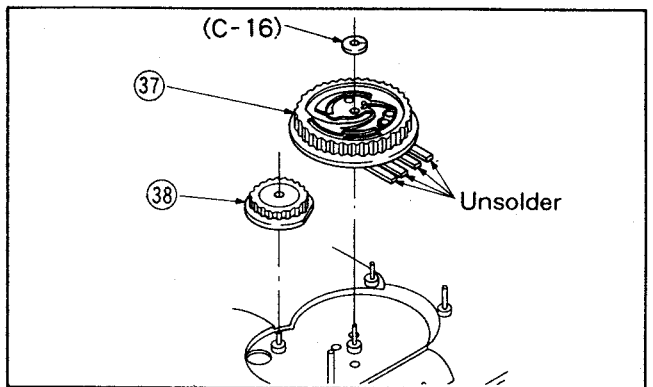
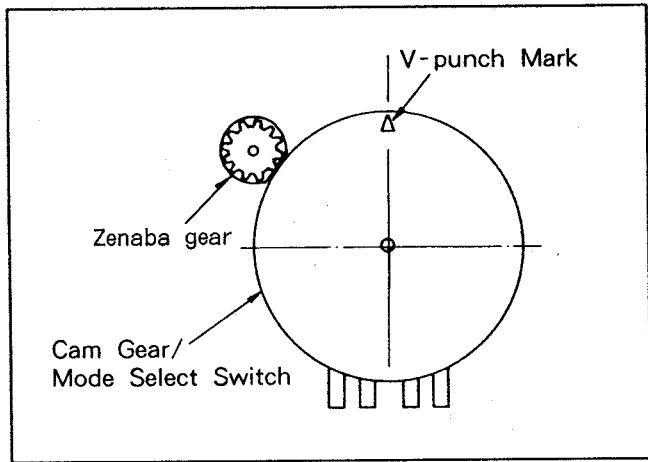

Fig. M19
Fig. A1
- 41) Remove cam gear/mode select switch assembly. See fig. M19.
- 4) Reinstall cam gear/mode select switch. See fig.M19. Position the V-punch mark on the cam gear as shown in fig. A1.